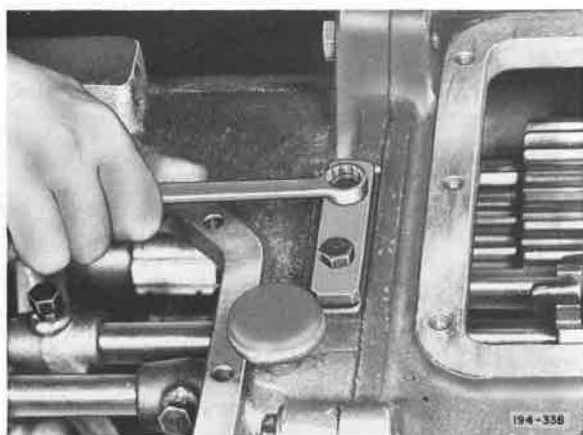

Figure 414. Installing Cover
32. Install poppet ball cover with capscrews, and tighten capscrews to 24 to 30 lb. ft. torque. Refer to Torque and Tolerance Table, Item 4. See Figure 414.